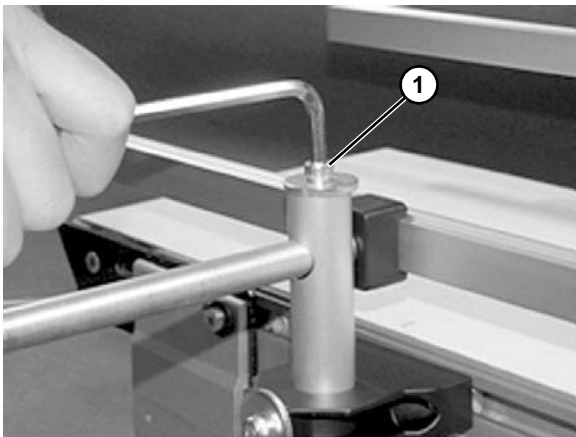

Figure 41
6. Adjust rail width with top screw (**Figure 41, item 1**).